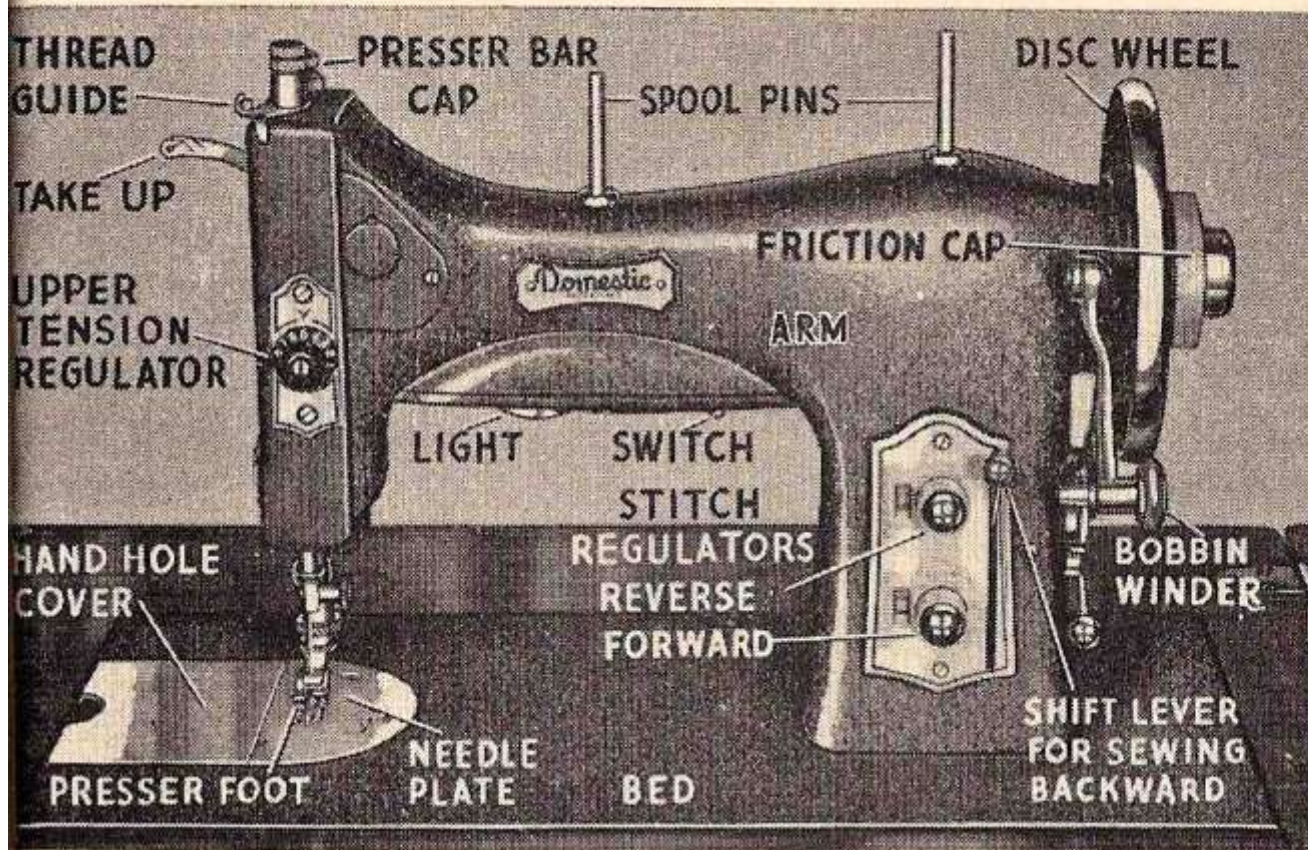
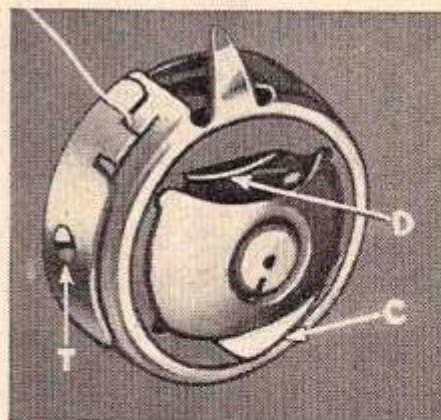

FIGURE 1
FIGURE 13
See Fig. 1. In the accompanying illustration (Fig. 1) the principal parts of this Domestic Rotary Electric are designated by their names. Carefully study this illustration to familiarize yourself with the names and locations of these functional parts which will be referred to throughout this manual.
See Fig. 9. After removing hand hole cover, reach down with left hand and take hold of bobbin case by lips C and D (Fig. 13) with first finger and thumb. A slight pressure with the thumb will depress lip D and the case may be readily removed.
See Fig. 9. Remove hand hole cover (Fig. 1) by lifting it up at finger hole, permitting you to reach down through hole to shuttle. Hold bobbin case by lips C and D (Fig. 13) with first finger and thumb of left hand, at the same time depressing lip D with thumb. Reach down through hole and slip bobbin case into place over center pin of shuttle, with projecting tongue upright. Push in as far as case will go and release thumb pressure on lip (D), allowing it to snap upward into place, holding the bobbin case in position.
Be sure to stop the machine with take-up (*Fig. 1*) at *its highest point*. Raise the presser foot with the lifter. Holding the sewing with the left hand pull it directly toward the back of machine, keeping the top thread in the presser foot slot, to avoid bending the needle. Then lift the sewing and draw the threads, together, over the thread cutter (*Fig. 1*) pulling downward. Both threads will be cut the proper length to again commence sewing.
See Fig. 13. Tension on the lower thread is regulated by adjusting screw (T) in bobbin case. To increase the tension *tighten* the screw; to decrease tension *loosen* the screw.